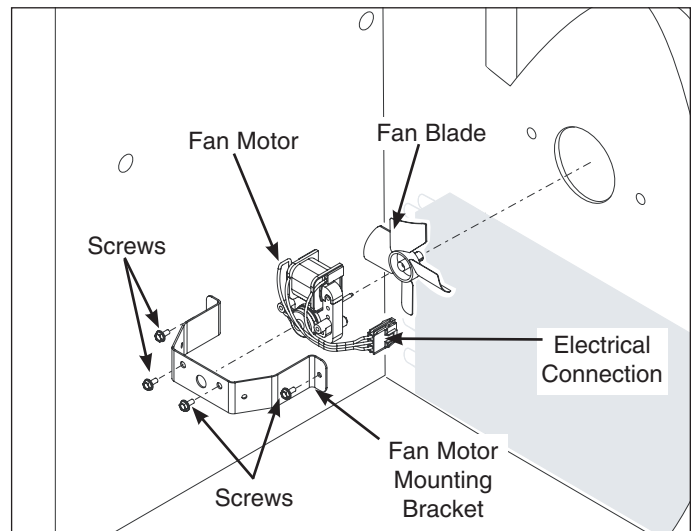

Figure 6-22. Evaporator Fan Assembly Removal
6. Using a 5/16" socket or nut driver, extract the two hex head screws securing the fan motor mounting bracket to the back wall of the unit. (See Figure 6-22)